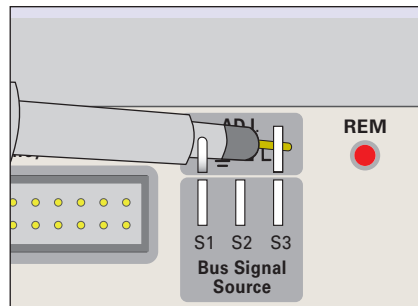

Fig. 4.3: Correct connection of the probe to the probe adjust output
**The PROBE ADJUST output of the HMO oscilloscope is only suitable for 1:1 and 1:10 probes. 100:1 or 1000:1 probes require special generators! Use the shortest possible ground connection to the PROBE ADJUST output as shown in Fig. 4.3.**